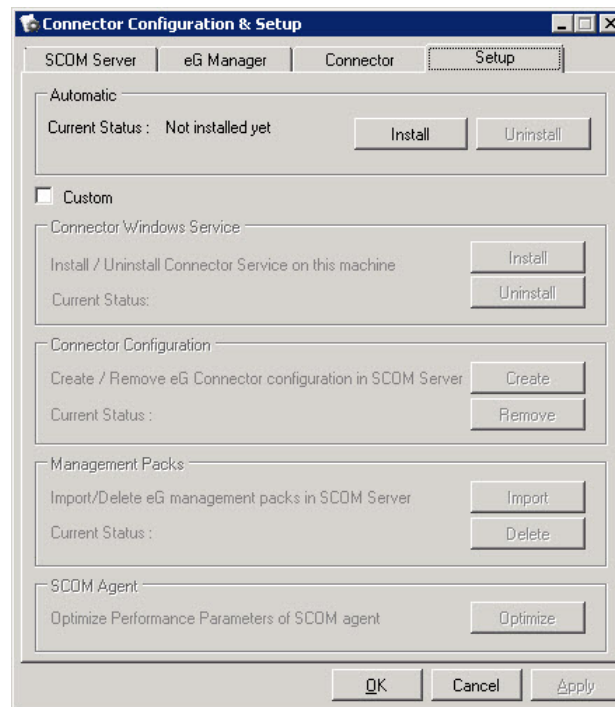

Figure 5.3: Installing the configuration for the new eG user
- Finally, return to the **Setup** tab page, and this time, click on the **Install** button (see Figure 5.3)
- Finally, click the **Apply** and **OK** buttons in Figure 5.3.